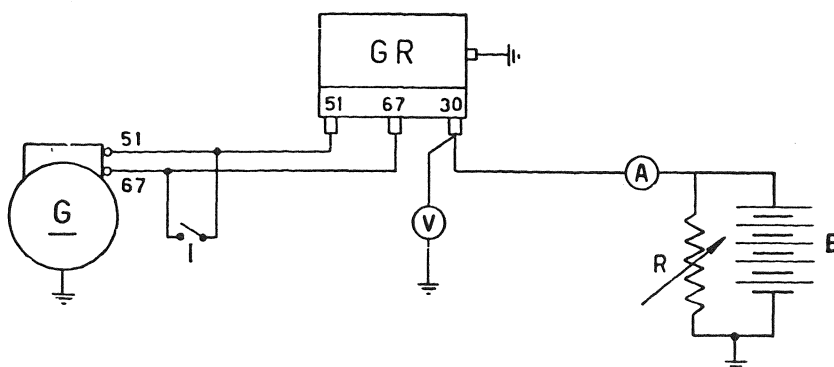

Fig. 422.
a) Wire as shown in diagram (fig. 422).
To be performed immediately after adjusting voltage regulator, using the same wire diagram (fig. 422) and instruments, except ammeter, which should have a 40 A scale.